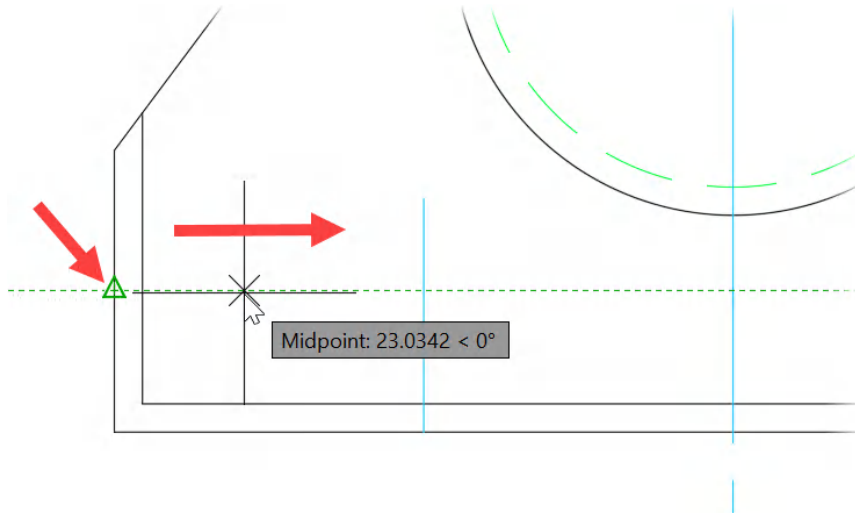

Figure 5.10: The Midpoint Osnap being used as an Object Snap Tracking point (arrowed for clarity)
4. Then, drag your mouse to the right. You'll see the green, dashed tracking line. *Figure 5.10* shows what this will look like onscreen: